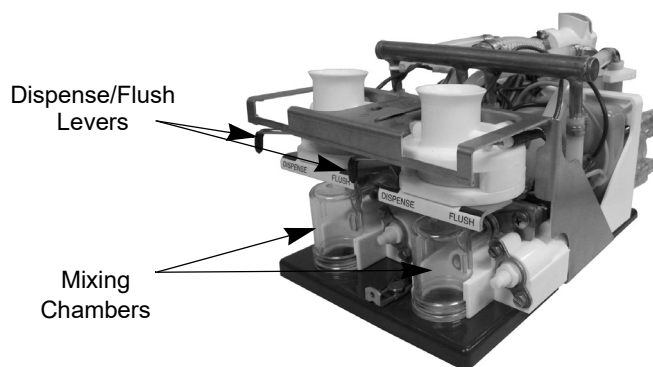

Figure 6. Platform Assembly with Dispense/Flush Levers
1. Move all of the Dispense/Flush levers (located on the platform assembly in the refrigerated cabinet) to the **Flush** position. Place an empty cup on the drip tray below each dispense nozzle (Figure 6).